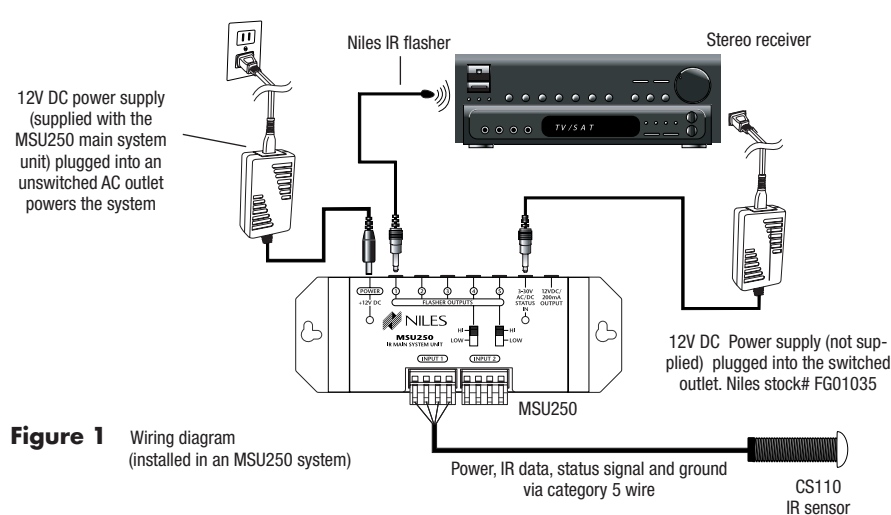

Figure 1 Wiring diagram (installed in an MSU250 system)
5. Connect the CS110 cable to the main system unit (**Figure 1**). Strip 1/4" of insulation from the end of each wire until there are no frayed ends. Insert each wire into the appropriate hole on the removable connector plug, and snap the locking tab down.